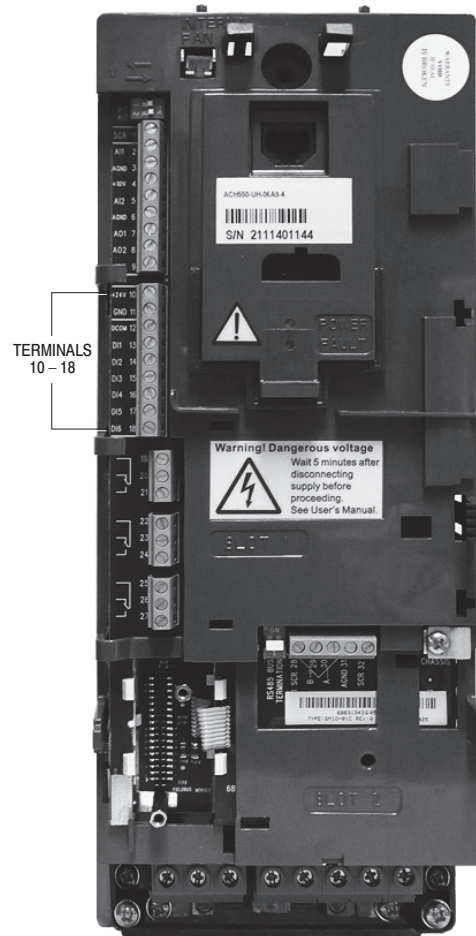

Fig. 42 — Terminal Block Location on ACH550 VFD
3. Disconnect the D11 input at Terminal 13 (see Fig. 42 for location of D11).